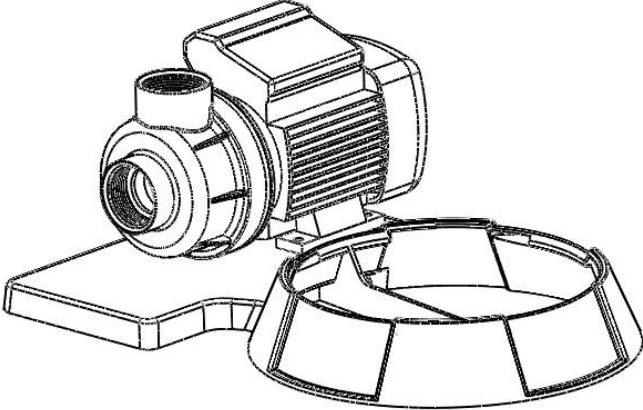

fig. 1
1. Mount the pump to sand filter support by using bolts and nuts. (fig. 1)